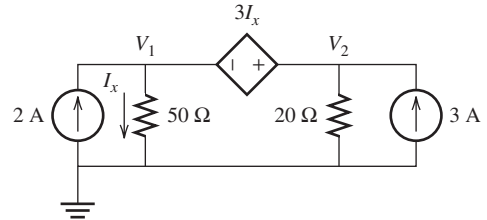

FIGURE P3.50 Circuit for Problem 3.50.
3.50 (H) Find V_1 and V_2 in Figure P3.50: